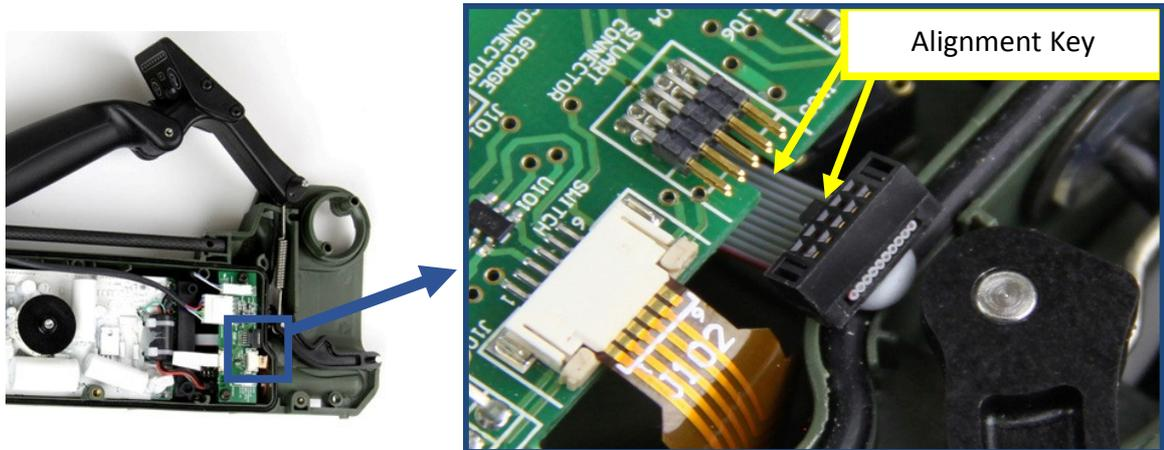

Figure 43: Connector 10 Way
- Lay the cable 10 way under the interface PCB. Take note of the connector key tab that aligns with the slot in the interface PCB. Figure 43.
- Gently align and connect the connector 10 way. Figure 43.